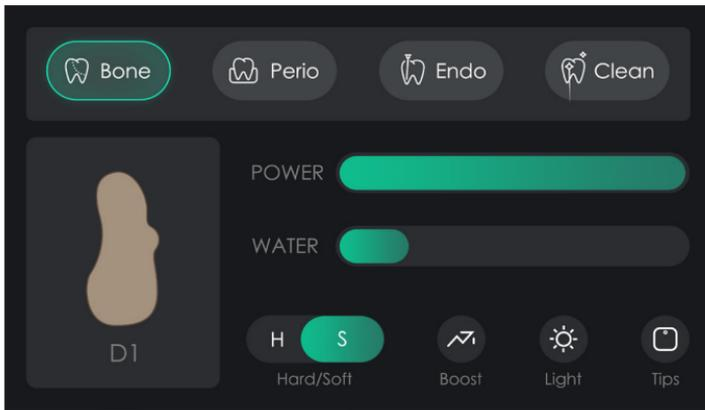

Fig. 9
As shown in Fig. 9, when the mode name "Bone " is selected in the green frame, the device is in bone cutting mode;In this mode, there are "power" and "water volume" that can be adjusted by sliding;Among them, the "power" in the 1~10 levels respectively correspond to the bone density pictures "D4~D1" on the left. In this interface, there is also the "H/S" key to switch the bone cutting depth: Surface cortical bone and deep cancellous bone;There is an "enhance" button, which can increase the current power by 30% with one button, which is convenient for efficiency improvement;There is a "light" button, which can switch the LED light on the handle;There is a "Settings" button for system settings and function introduction.
7.2.2 PERIO function (Fig.9)